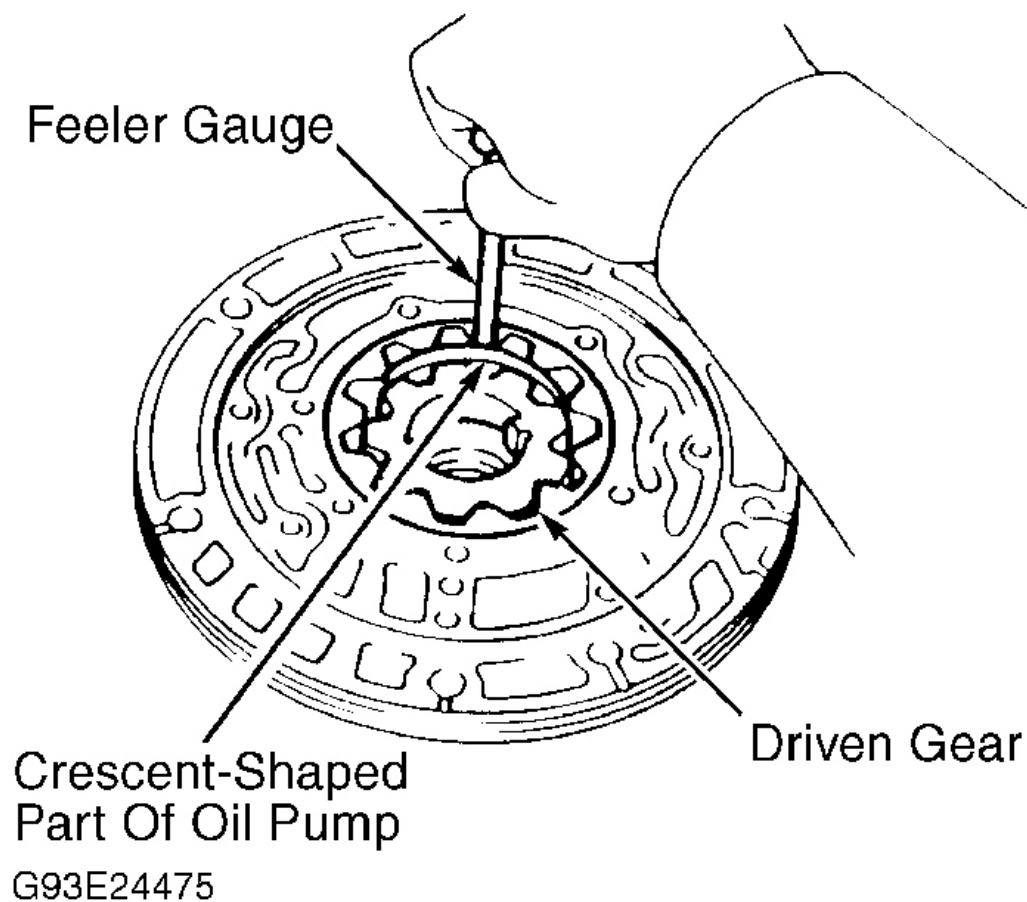

Fig. 16: Checking Oil Pump Gear Tip Clearance
2. Using a feeler gauge, measure tip clearance between both gears and crescent-shaped part of pump body. See **Fig. 16** . Replace pump body if clearance is not within specification. See **OIL PUMP CLEARANCE SPECIFICATIONS** table.